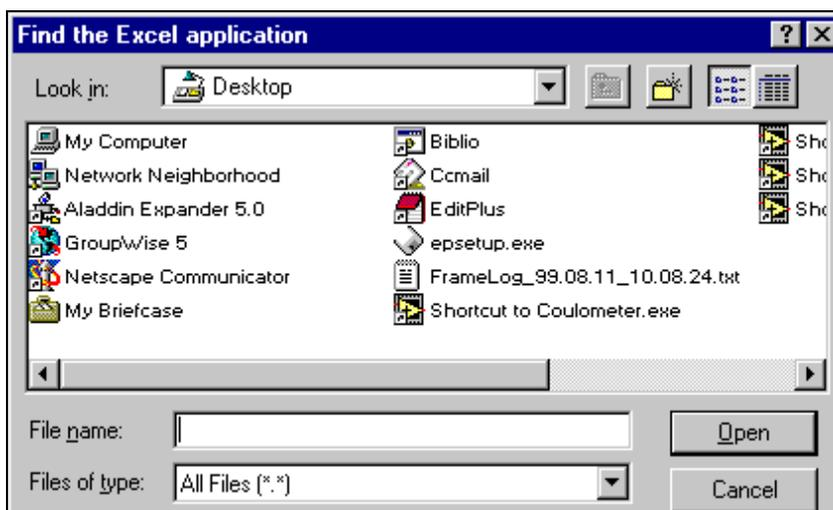

Figure 26. Find Excel application from here.
2. In the “Excel Path” field, enter the directory where the executable for Excel is located. If you do not know the path, click on the **List** button to open a dialog box (see Figure 26).